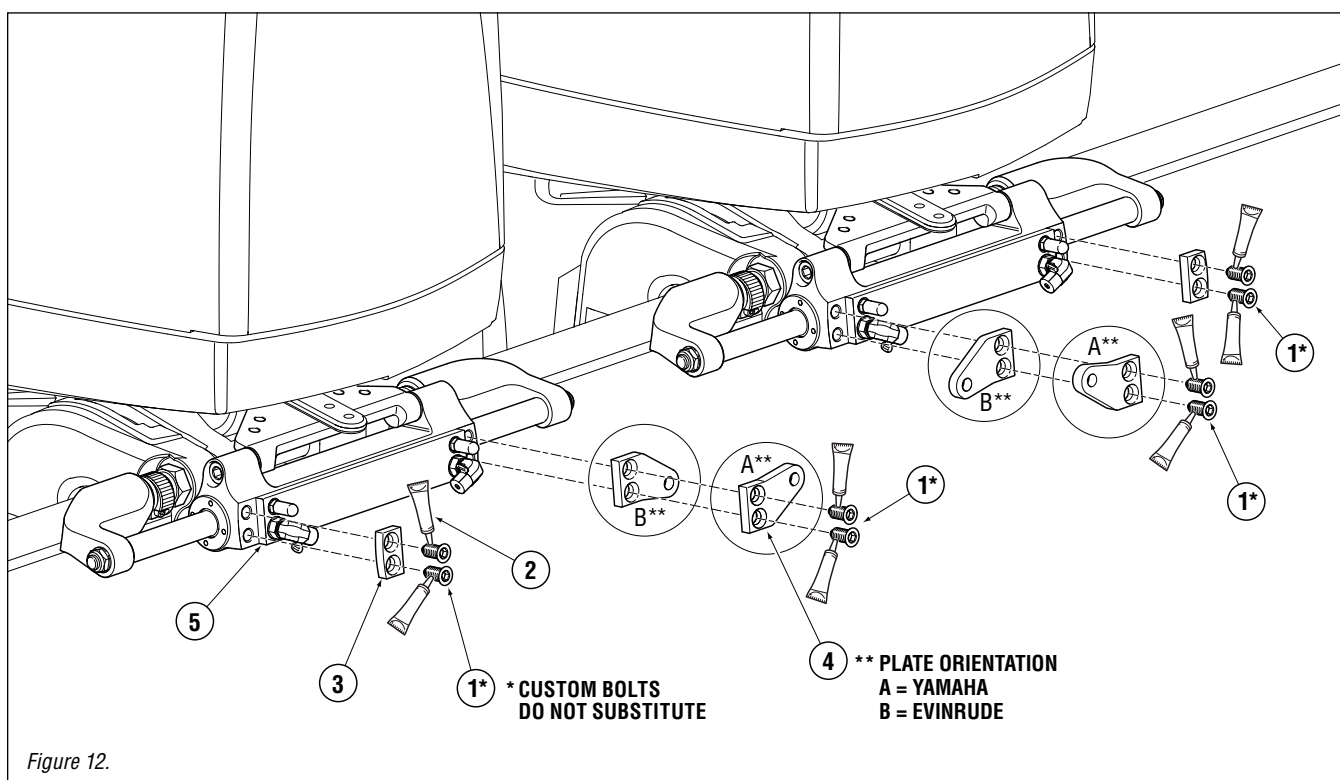

Figure 12.
**Thread locker MUST be installed onto all eight bolts (item 1). Failure to do so may lead to separation of components.**
2. Mount tiebar and blanking plates (item 3 and 4) to both sides of steering cylinder (item 5) as shown in Figure 12.